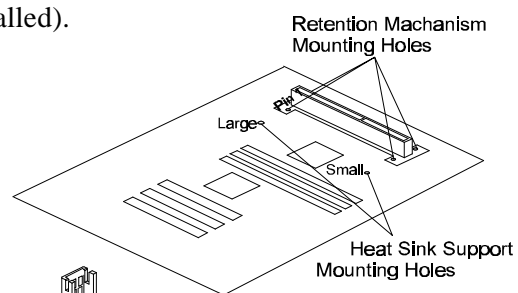

Figure 2-6
1. Finds out the Universal Retention Mechanism (URM) Mounting Holes of Slot1 on HOT-679V main board. (Refer to Figure 2-6)